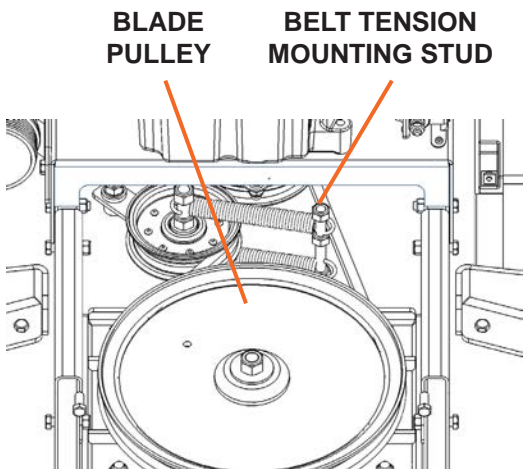

Figure 17
7. Using a 13mm wrench, remove the top nut from the belt tension spring mounting stud (see Figure 17).